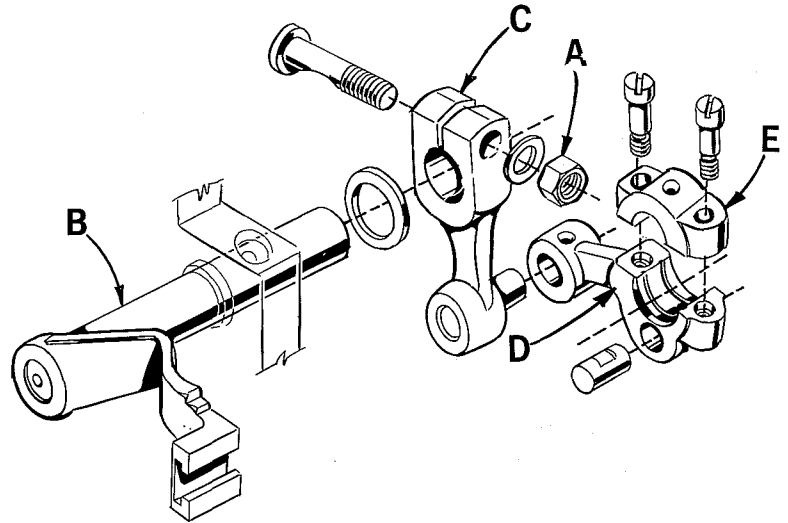

Fig. 23
14. Loosen clamp nut (A, Fig. 23) which holds the upper knife driving arm (B). Access to clamp nut is through top cover. Draw driving arm to the left until upper knife driving lever (C) and connecting rod (D) drop, allowing removal of bearing cap (E). This is at bearing point (K, Fig. 22) on crankshaft. Observe same precautions when reassembling cap as described in paragraph 7.
15. Loosen two screws (N) in fan collar; remove both halves of cooling fan.
16. Remove screw (P); take off pulley cap (R).
17. Loosen two screws (S): remove pulley (T).
18. Remove three screws (U); take off bearing retaining plate (V): also, spacer collars (W) and (X) may be removed at this time.
20. If necessary to replace ball bearing (Y), it can be pressed off shaft on an arbor press. In replacing the bearing it must be pressed on carefully until it seats against ground thrust washer (Z).